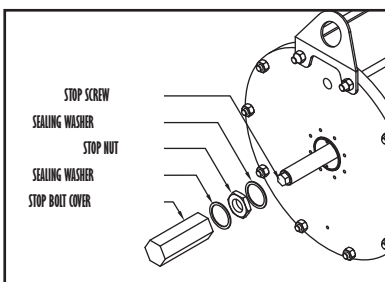

figure 1
- 1.1 Pneumatic/Hydraulic Cylinder (See figure 1)